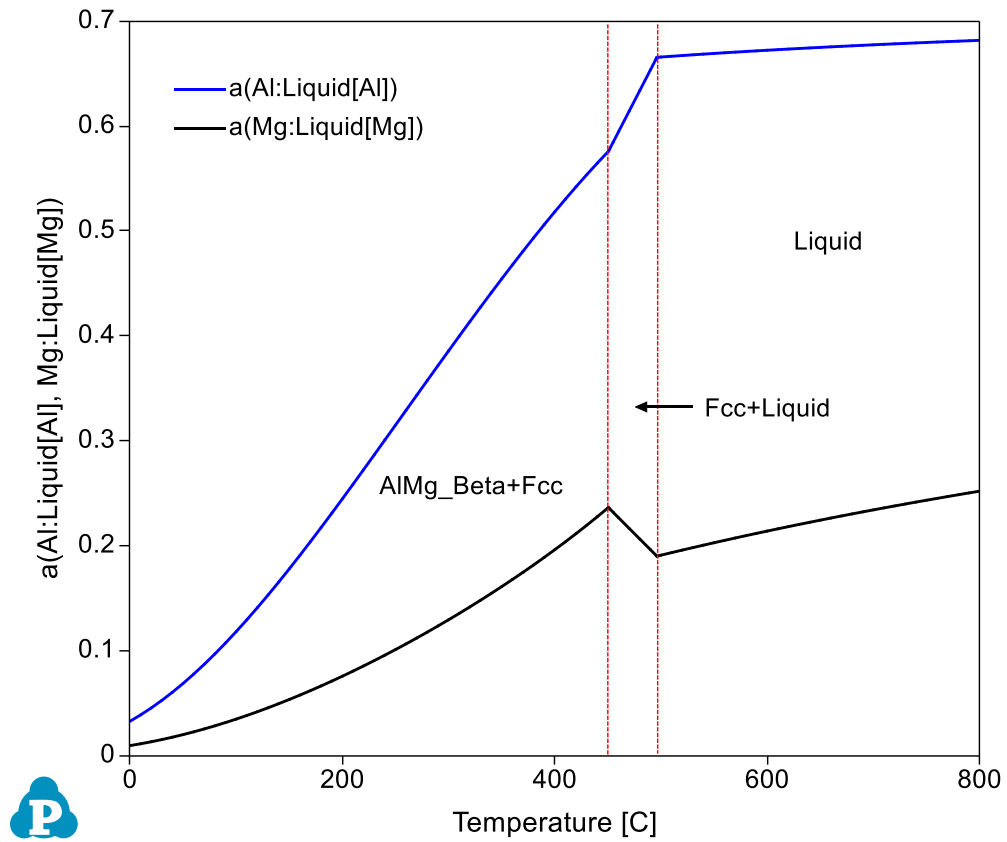

Figure 1.11.3: Activities of Al and Mg at 70% at% Al and 30 at% Mg as a function of temperature
- Figure 1.11.3 shows the activities of Al and Mg as a function of temperature using Liquid Al and Liquid Mg as reference states;